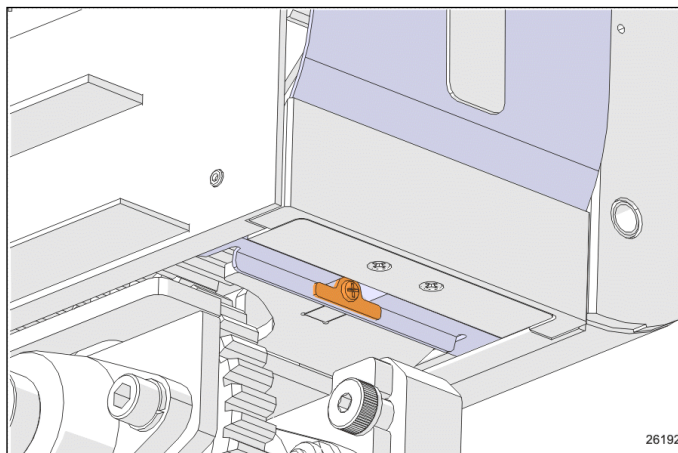

FIGURE 3: TAB AND MOUNTING SCREW
3. Once the room is fully extended, remove the screw and tab holding the flexible plastic rail cover in place. (Figure 3) *Perform this on both sides.*